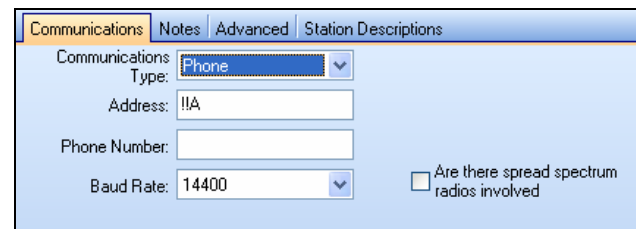

Figure 33.3.2
2. Click on the "**Address:**" box and enter a three letter / number or symbol combination (Figure 33.3.2).